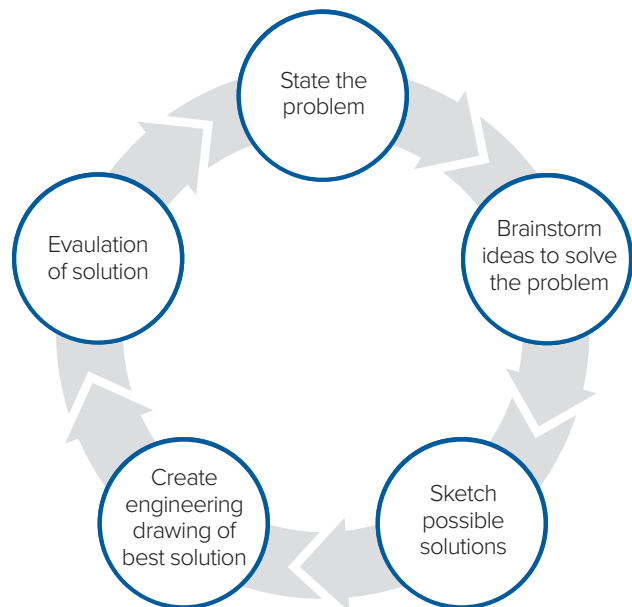

Figure 1: Technical design process loop
- A. Students prepare a portfolio that includes each step of the technical design process loop. (Figure 1).
- a. Title page with the event title, conference city and state, the year, and the team/chapter ID number; one (1) page
- b. Table of contents; one (1) page
- c. Team's interpretation of the problem, including a list of criteria and constraints set forth in the design brief; one (1) page
- d. Demonstrated use of a brainstorming technique of the team's choice (mind mapping, reverse engineering, word association, etc.), to develop ideas to solve the problem; brainstorming ideas should be documented; one (1) page
- e. At least three (3) hand-drawn sketches of different solution options to a given problem. One (1) page for each hand-drawn sketch; three (3) pages total